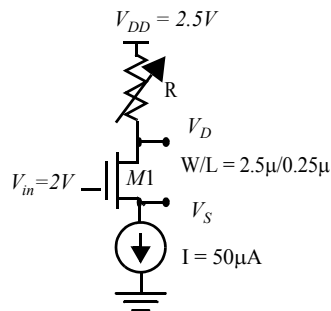

Figure 0.4 Test configuration for the NMOS device.
8. [M, None, 3.3.2] An NMOS device is plugged into the test configuration shown below in Figure 0.4. The input $V_{in} = 2V$. The current source draws a constant current of $50 \mu A$. R is a variable resistor that can assume values between $10k\Omega$ and $30 k\Omega$. Transistor M1 experiences short channel effects and has following transistor parameters: $k' = 110 * 10^{-6} V/A^2$, $V_T = 0.4$, and $V_{DSAT} = 0.6V$. The transistor has a $W/L = 2.5\mu/0.25\mu$. For simplicity body effect and channel length modulation can be neglected. i.e $\lambda=0, \gamma=0$.